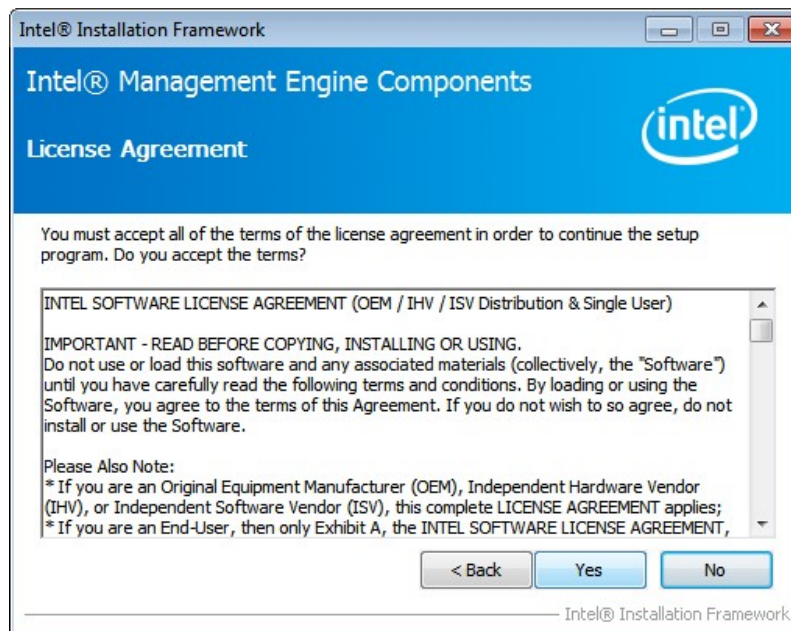

Figure 6-34: Intel® ME Driver License Agreement
Step 6: The license agreement in **Figure 6-34** appears.